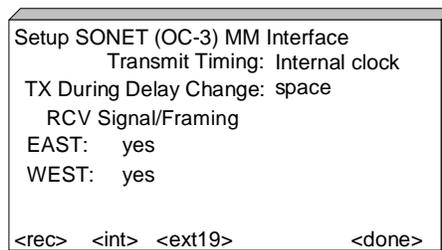

Figure 3.2 Setup SONET (OC-3 MM) Interface Screen
4. Select **SONET (OC-3) MM** and press **ENTER**. The **SETUP SONET (OC-3) MM INTERFACE** screen is displayed (see Figure 3.2).